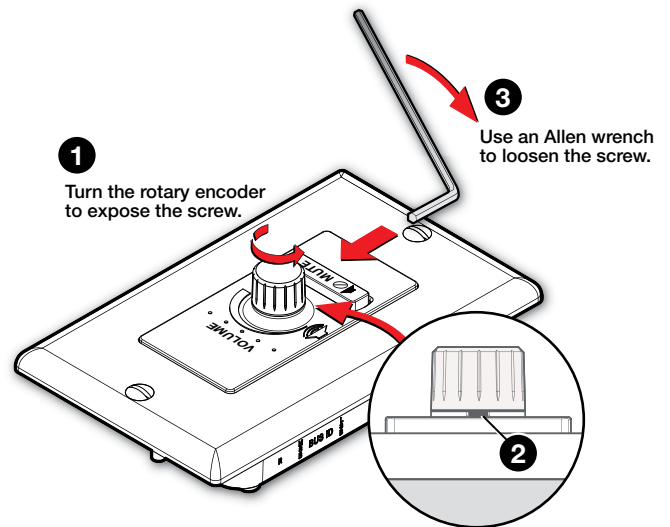

Figure 4. Removing the Rotary Encoder (EBP VC1 D only)
1. Turn the rotary encoder knob (figure 4, ❶) to expose the hex screw holding the knob in place (❷).
2. Insert the provided 0.05 inch Allen wrench and turn the wrench in the direction shown (❸) to loosen the screw.